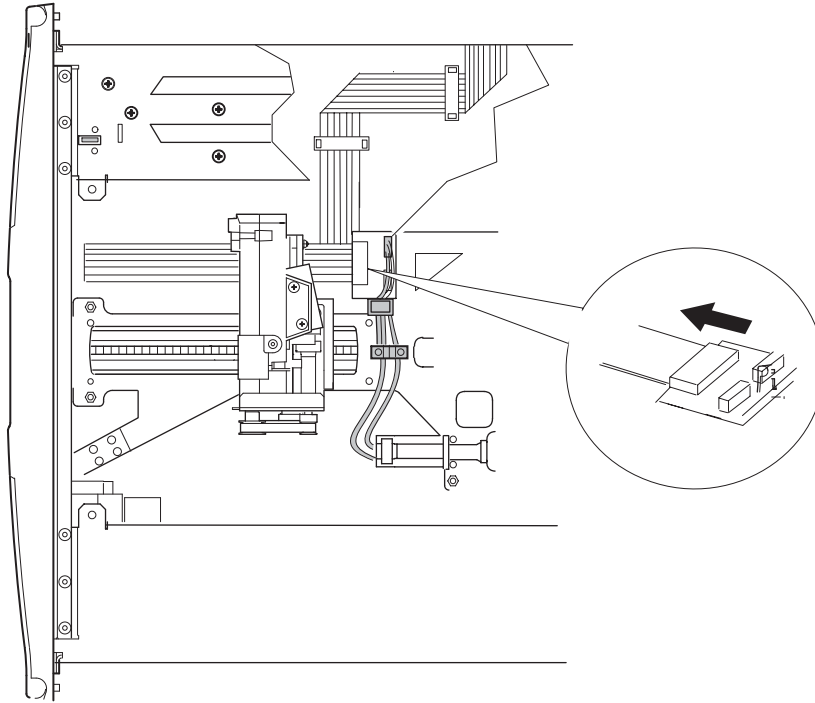

Figure 3-59: Disconnecting flex cable at J1
6. Align the angled portion of the flex cable to the fourth row of holes (as shown in Figure 3-59) and apply to the chassis wall.